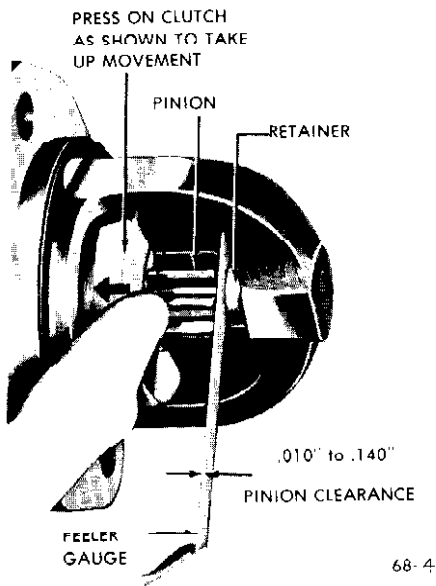

Figure 68-4--Checking Pinion Clearance
2. After energizing the solenoid, push the pinion away from the stop retainer as far as possible and use feeler gauge to check clearance between pinion and retainer. See Figure 68-4.